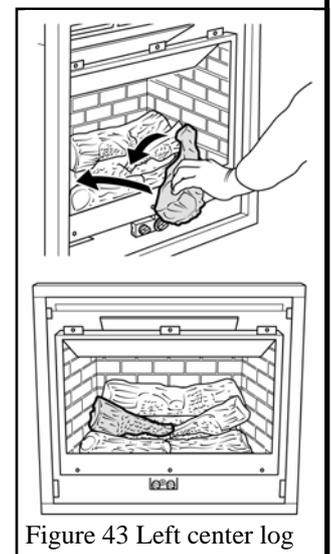

Figure 43 Left center log
5. Place the left side center log in position locating the thick part on the left side of the ash bed with its "nose" resting on top of the right center log. See figure 43.